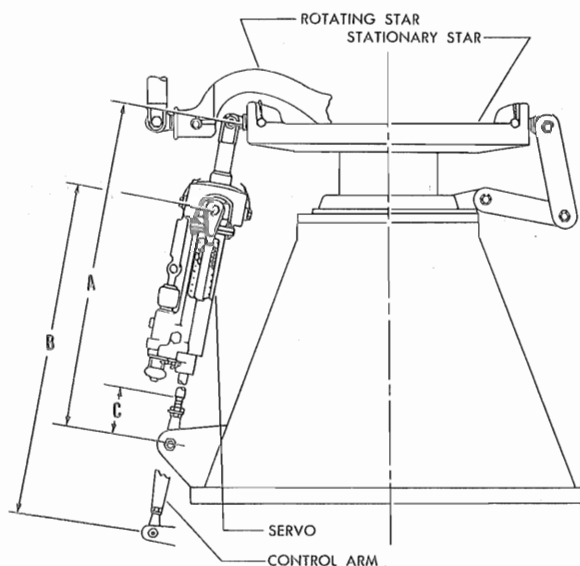

Figure 7-17. Rigging Dimensions Main Rotor Primary Servo Units
f. Check length of servo unit and control arm for dimensions given in figure 7-17 and table 7-V.
| SERVO UNIT | FIGURE 7-17 DIMENSION A | FIGURE 7-17 DIMENSION B | FIGURE 7-17 DIMENSION C |
f. Check lengths of servo unit and control arm for dimensions given in figure 7-17 and table 7-V.